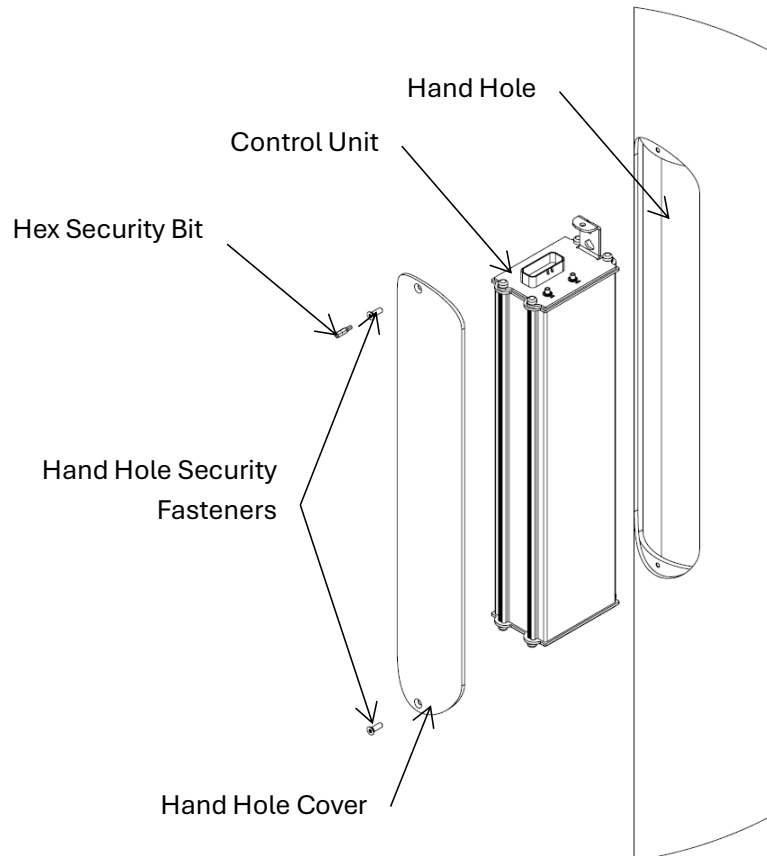

Fig. 12.1-1: Accessing Pole Hand Hole
1. Use a 5/32 hex security bit with center hole to uninstall the hand hole security fasteners (refer to Figure 12.1-1). Remove the hand hole cover and retain uninstalled hardware.
3. Use a 5/32 hex security bit with center hole to reinstall the hand hole security fasteners and cover (refer to Figure 12.1-1).